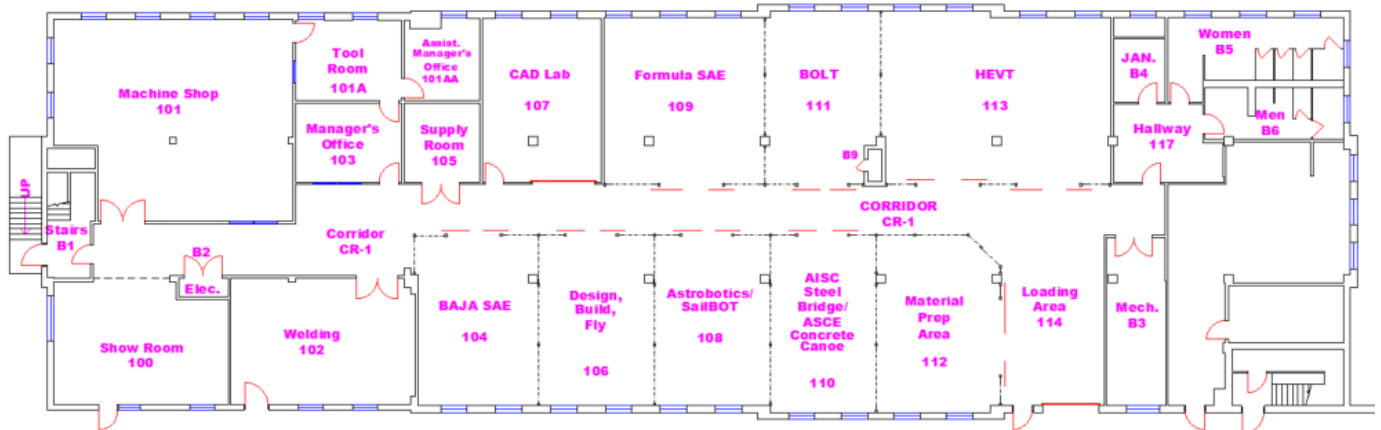

Figure 1 – Ware Lab Main Floor.
- a) First floor – (Room 100, 104, 106 through 114, 117) – Fig. 1.
2. Machine Shop – (Room 101) – Fig. 1.
3. Welding Shop – (Room 102) – Fig. 1.
4. Administrative Areas – (Room 101A, 101AA, 103, 105) - Fig. 1